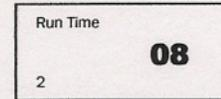
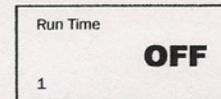

FIGURE 6
FIGURE 7
STEP 7: Your display should look like FIGURE 6. At this point refer to STEP 4 and repeat as you did when setting your first feeding. The only difference will be the number 2 in the lower left hand side of the display which is indicating that this is concerning your second feed time. *At this stage of programming your unit, if you do not want to use the second feed time, set the run time to 00. The display will automatically show "OFF". This will end the second feeding. Even though the second feed time was set, the run time being set to 00 will end your programming session. The screen will look like FIGURE 7.*